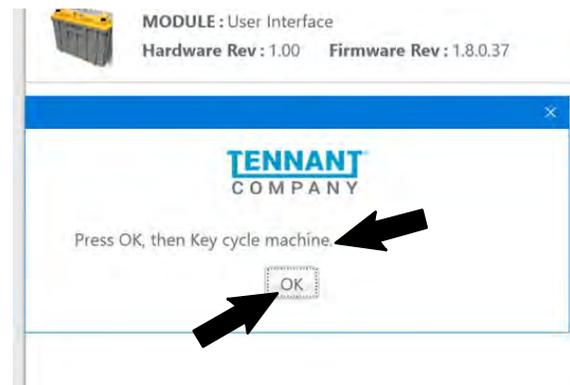

FIG. 28
13. A text box with “Press OK, then Key cycle machine.” appears. Select the OK button and then key cycle the machine to complete the firmware update. (Fig. 28)